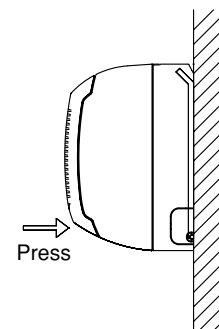

Fig. 3-58
2. Press on the air outlet to hold it in place, and press the lower part of the indoor unit until a "click" sound is heard and the indoor unit is securely fastened to the installation tabs on the lower side of the rear panel. (Fig. 3-58)